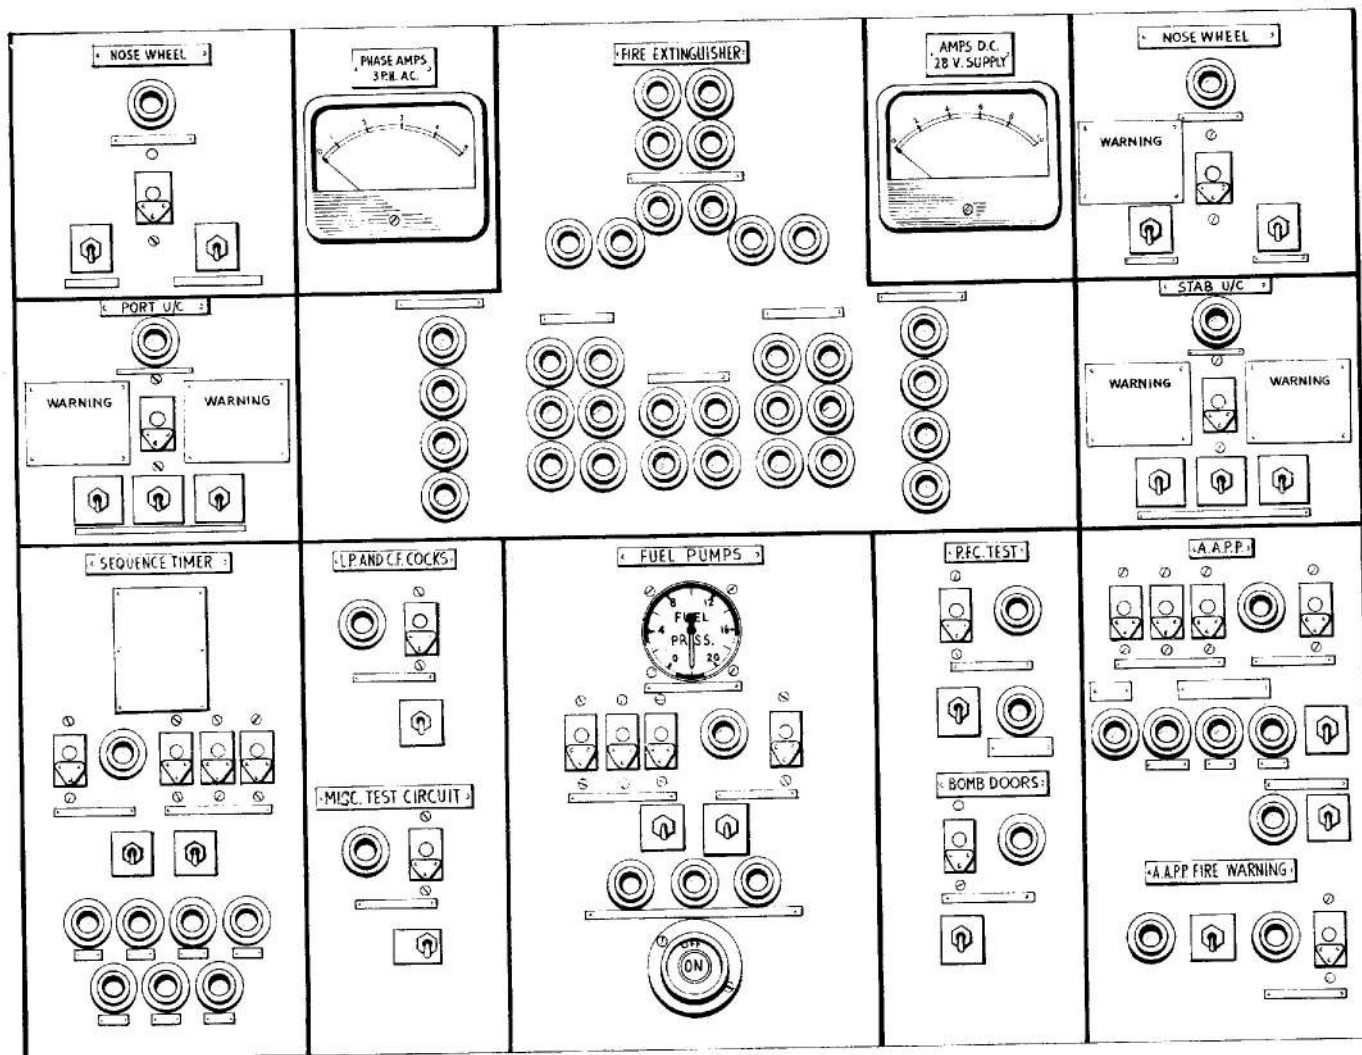

Fig. 2. Control panel
7. The control panel carries all the controls and indicators associated with the test circuits. These components are arranged in groups (*fig. 2*) divided by white lines painted